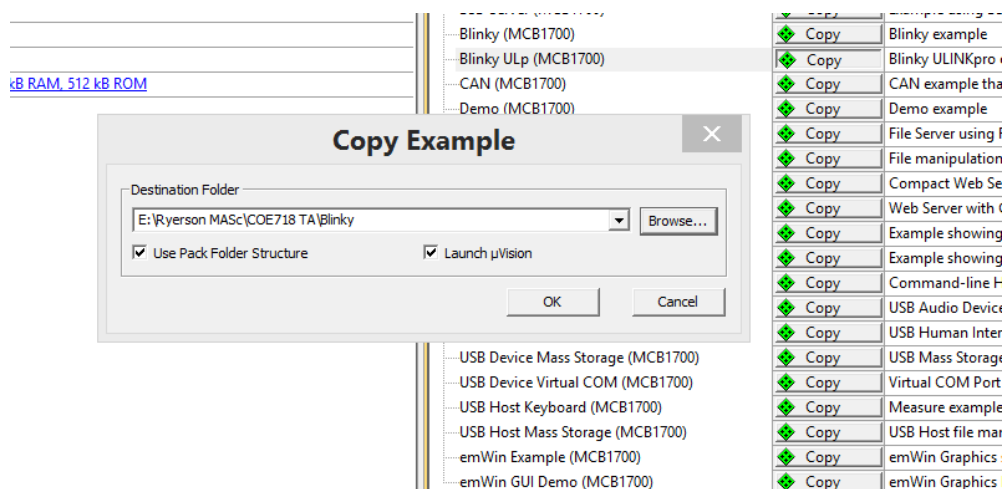

Fig. 4: Copy Blinky to Lab1 folder
4. Create a new directory for COE718 Labs and then a sub-folder for Lab1 in your home directory. Click on "Devices -> LPC1768 ..." to copy the Blinky project files to your created folder as depicted in Figure 4.